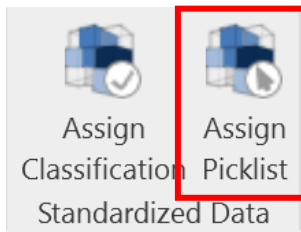

Figure 1 – Standardised Data ribbon – Assign Picklist
1. Under *BIM Interoperability Tools* tab select *Assign Picklist* under *Standardised Data* per figure 1